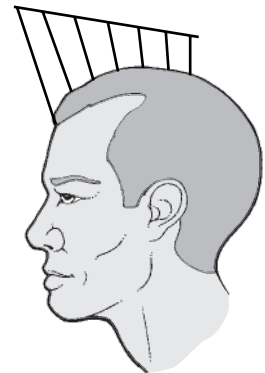

FIGURE 28 | Diagonal line within top front sections.
- *Diagonal* lines have a slanted direction and are used to create sloped lines at the perimeter on the design line (Figure 28). When used at the perimeter, these lines are often referred to as *diagonal forward* or *diagonal back*. Diagonal finger placement may also be used to create a stacked layered effect at the perimeter or to blend longer layers to shorter layers within a haircut.